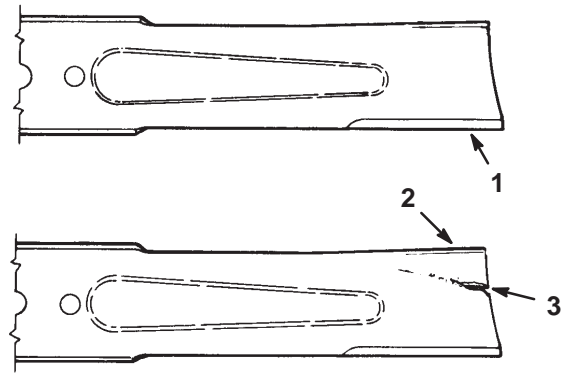

Figure 43
1. Inspect the cutting edges (Fig 43). If the edges are not sharp or have nicks, remove and sharpen the blades. Refer to Sharpening the Blades on page 34.
2. Inspect the blades, especially the curved area (Fig. 43). If you notice any damage, wear, or a slot forming in this area (item 3 in Fig. 43), immediately install a new blade.